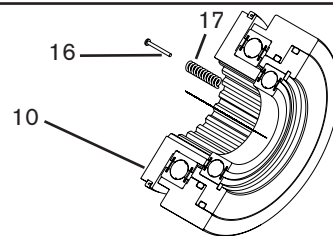

FIGURE 3
4. Install the Compression Springs (Items 17) and Spring Stiffener Pins (Item 16) into the Drive Ring (Item 10) (See Figure 3).